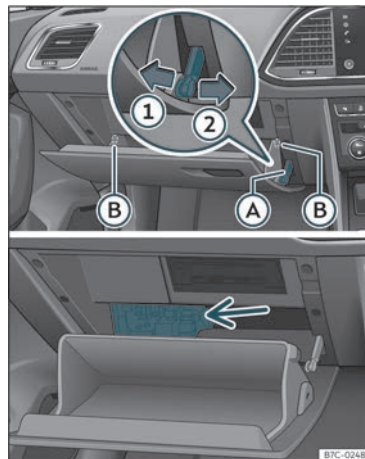

Fig. 44 Glove box (right hand drive): fuse box access.
- Undo the opening limiter >>> Fig. 44 A in two steps: first, unlock the limiter by pulling back on it (arrow ①) and then move it gently to the right (arrow ②). Remove the guide when the cover is in the normal opening position (30°).